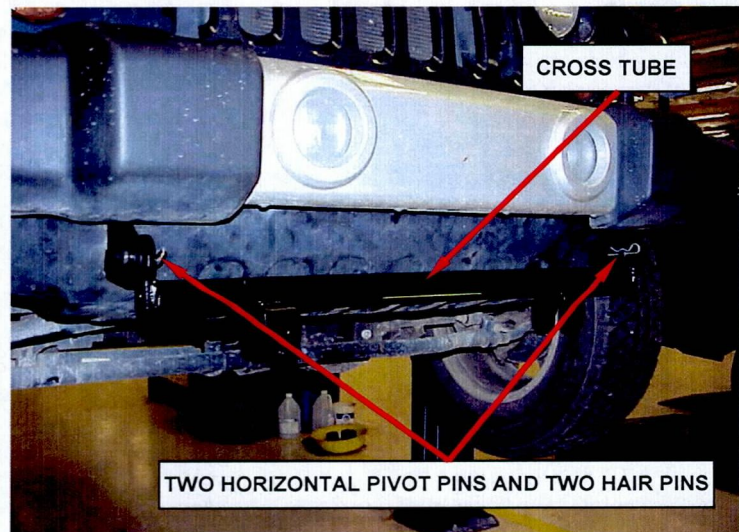

Figure 2 – Cross Tube Removal
3. Remove the cross tube (if currently installed), the two horizontal pivot pins and the two hair pins (Figure 2).